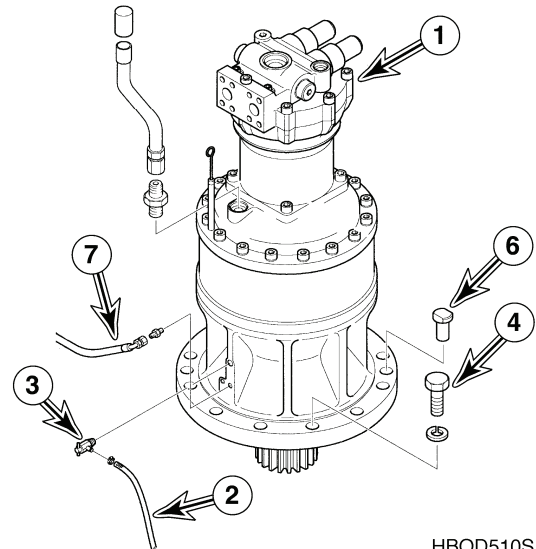

Figure 3
11. Tag and disconnect hoses from swing motor (1, Figure 3). Plug and cap hoses and ports to prevent contamination from entering hydraulic system or component.
12. Disconnect tube (2) from drain cock (3) and hose fitting (7) from fill hole.
13. Remove twelve bolts and washers (4, Figure 3) holding swing reduction gearbox (5) to frame.
14. Using a suitable lifting device, sling swing motor (1, Figure 3) and remove swing motor and reduction gearbox (5) as an assembly from unit.
NOTE: A drain cock (3, Figure 3) and tube are on side of gearbox. Be careful not to damage valve or tube.
NOTE: There are two alignment pins (6, Figure 3), one on each side of reduction gearbox flange.